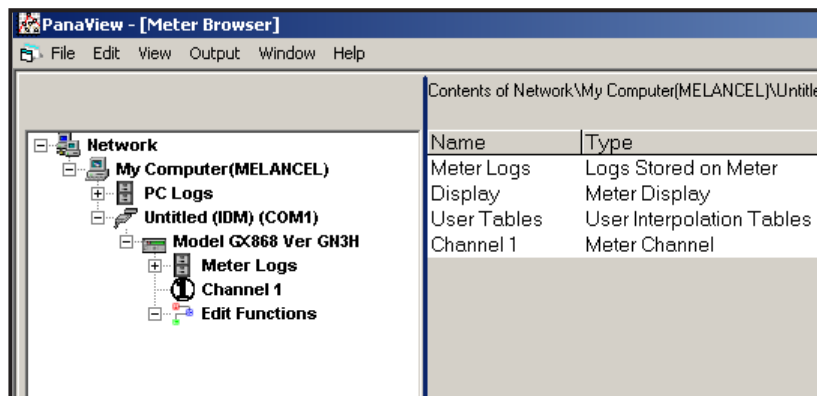

Figure 35: New Meter Browser with Meter Branch
3. Then expand the meter tree as shown in Figure 35.